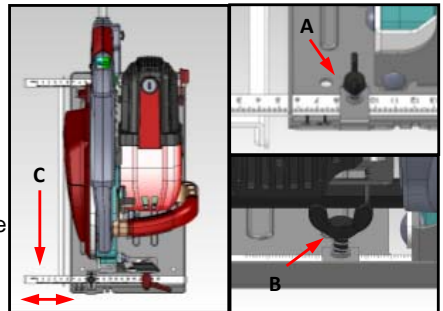

Fig.20
The guide ruler can be used to cut a straight sawing line along the workpiece and can be affixed at the front of base with the wing nut. The guide ruler (C) can be used on the right side of the blade only, shown in Fig.20. Using the guide provides accurate cuts compared to free- hand cutting. Locate the guide into the mounting slots (A) at the front of the baseplate and tighten the wing screw (B) to lock it at the desired cut width. Refer to Fig.20